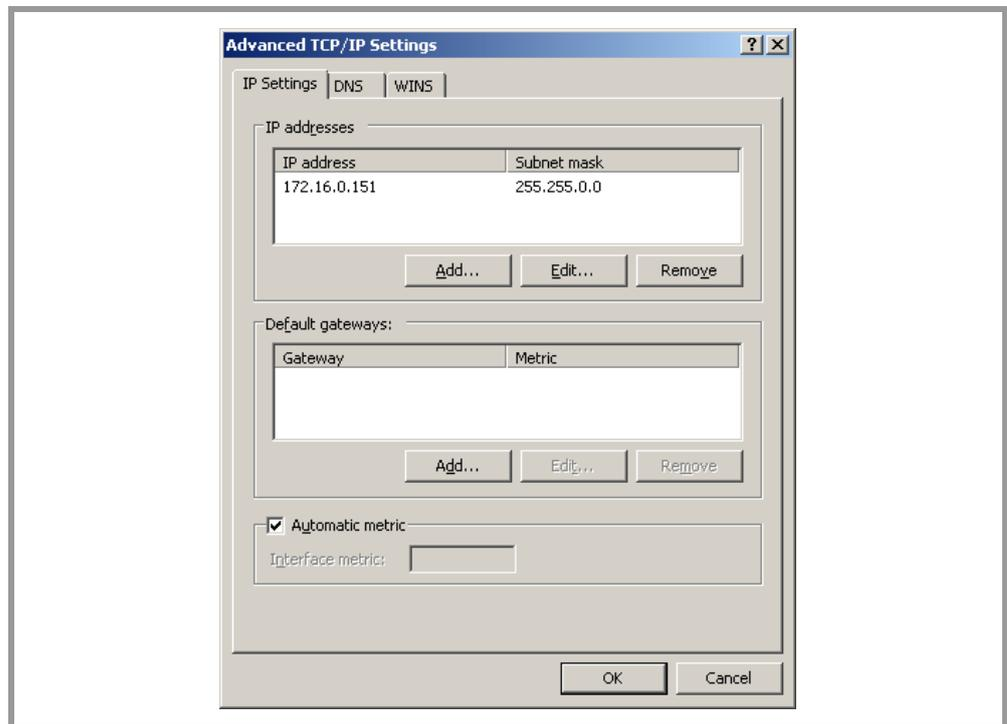

Fig. 8 Advanced properties settings of a Network Adapter
4. Click on the "Advanced..." button. Then the dialog "Advanced TCP/IP Settings" opens, similar to the image shown in Fig. 8.
6. Add in the opening dialog, labelled as "TCP/IP Address", the new IP address and subnet mask pair. Then confirm with the "Add" button. The added IP address should now appear also in the dialog shown in Fig. 8.